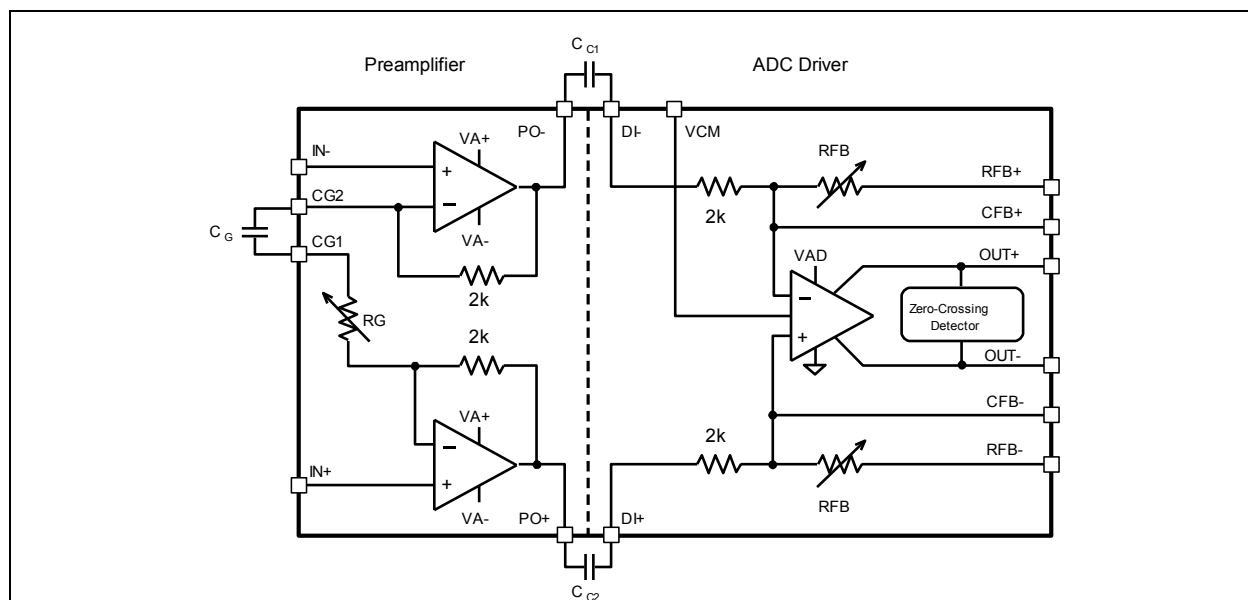

Figure 12. Analog Section Functional Block Diagram
The preamp stage consists of a low-voltage-noise current-feedback differential amplifier with gain programmed by an array of resistors and CMOS switches that makes up RG. See Figure 12 for detail of one of the two channels. The RG resistor/switch array is programmed via the SPI digital control interface. The resulting gain varies from 0 dB to 39 dB in 3 dB steps (in the 6261 and 6263) or 6 dB steps (6266). The preamp feedback resistors have a nominal value of 2 kΩ. The RG values with the corresponding gains for THAT 6261, 6263 and 6266 are listed in Table 2.
The preamp gain-setting resistor (RC) and ADC driver feedback resistor (RFb) values (Figure 12) with the corresponding gains for THAT 6261, 6263 and 6266 are listed in Table 2.